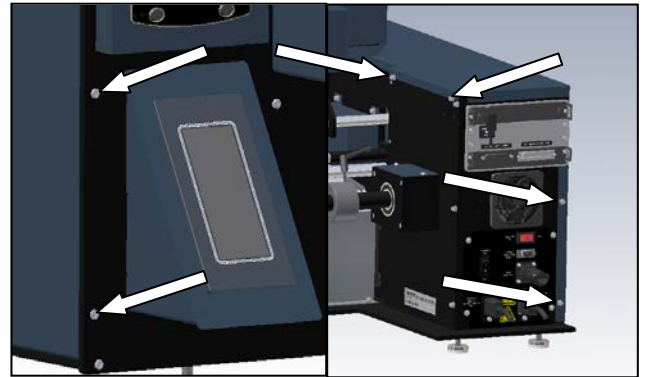

Figure 3-128. Frame Cover Screws
1. Remove the six screws holding the Frame Cover, set screws and Frame Cover aside (Figure 3-128).